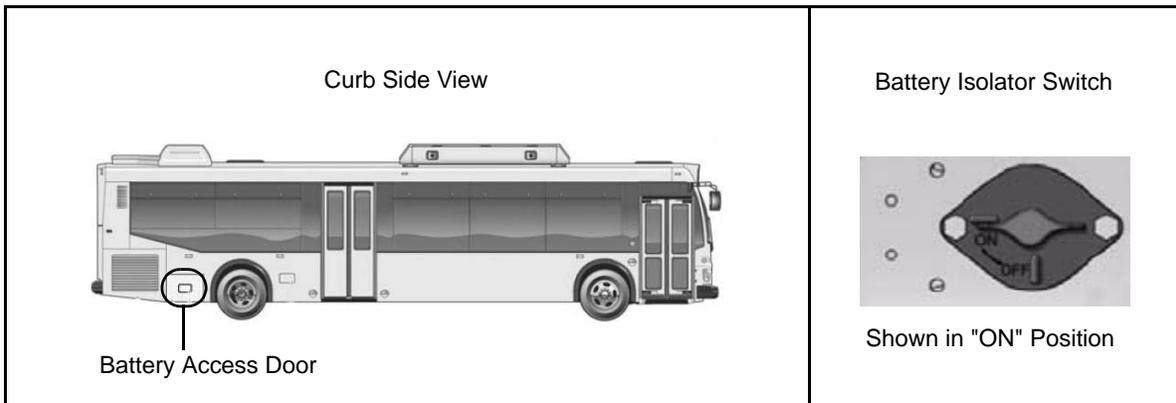

Figure 1-9 Orion NG Battery Isolator Switch Location
1. Open the battery access door located on the curb side of the vehicle. See **Figure 1-9**.